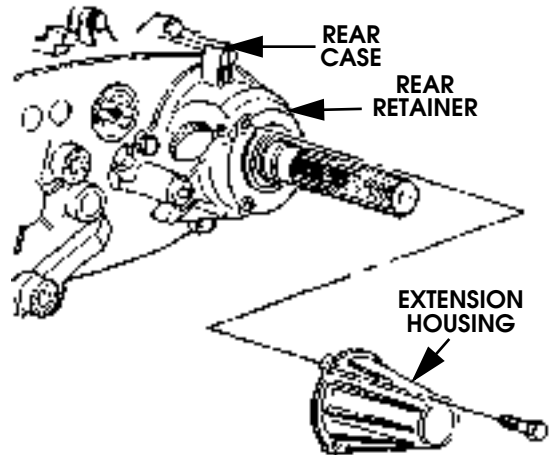

Figure 5-84: Extension Housing Removal
4. Remove extension housing (Figure 5-84).